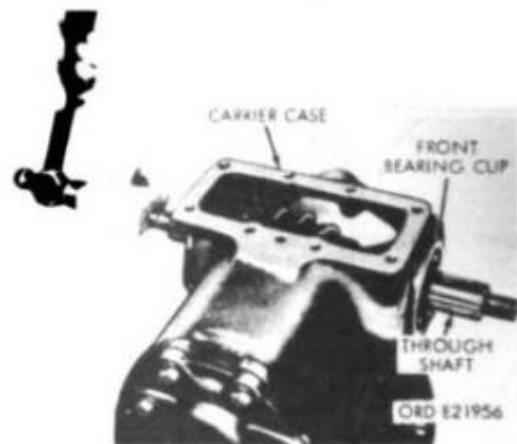

Figure 74. Removal of through shaft
**e. Removal of Through Shaft (Fig. 74).**
- (1) Tap on end of through shaft with hammer and wood block until front bearing cup is free from carrier case. Remove cup.
- (2) Remove through shaft with bearing from case. Using suitable driver, drive rear bearing cup from case.